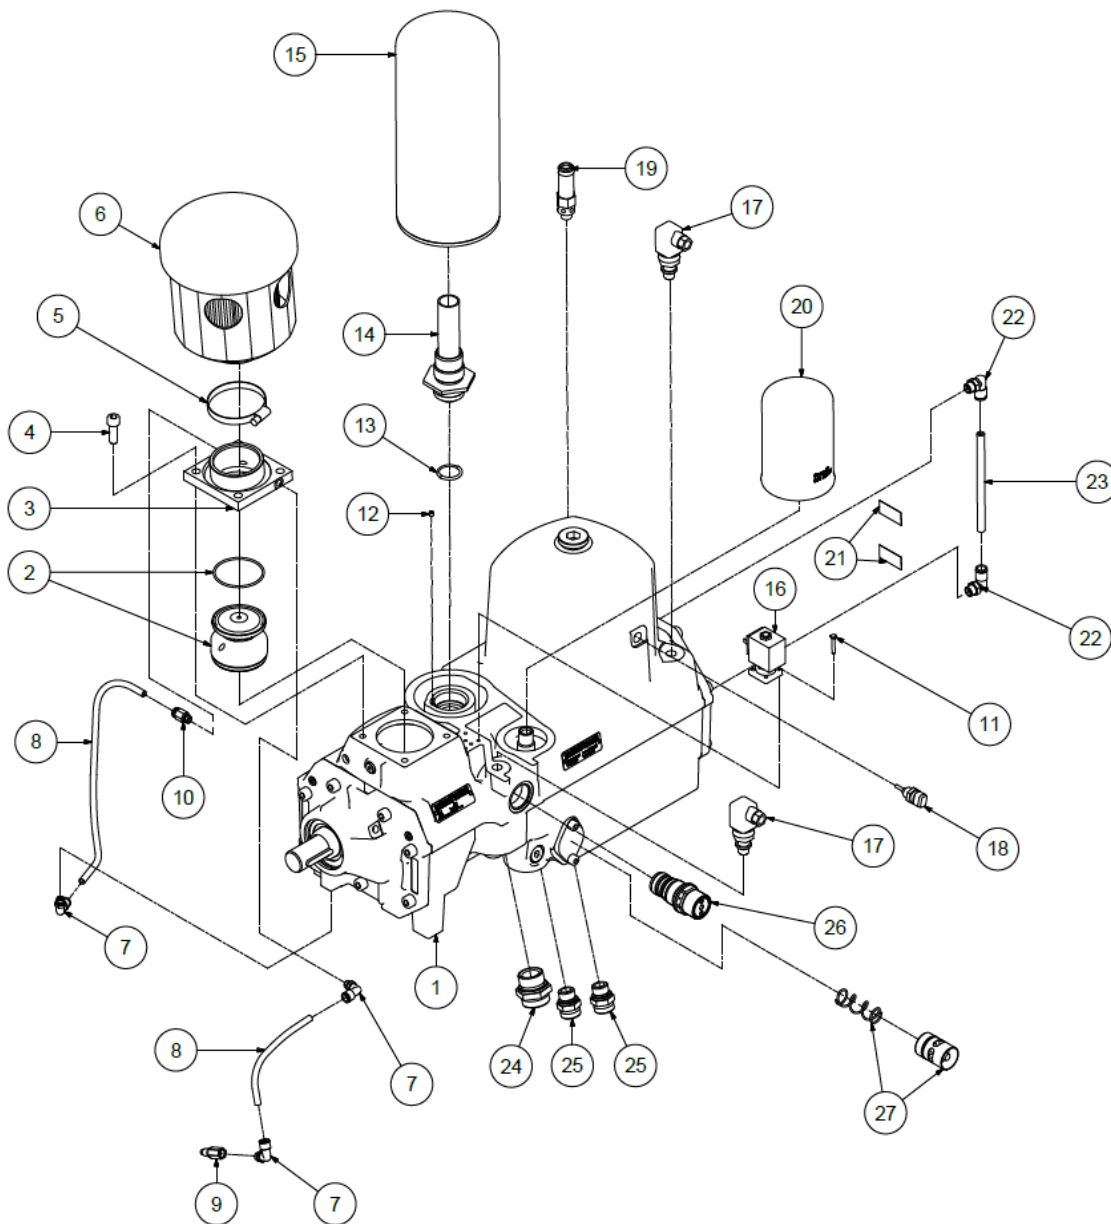

FIGURE 9-1 Exploded View of EK100 Compressor
This section will cover basic maintenance of various control devices used with the compressor package. Refer to Fig 9-1 for pictorial with general locations of these devices.
4. Refer to Figure 9-1 for hardware details.